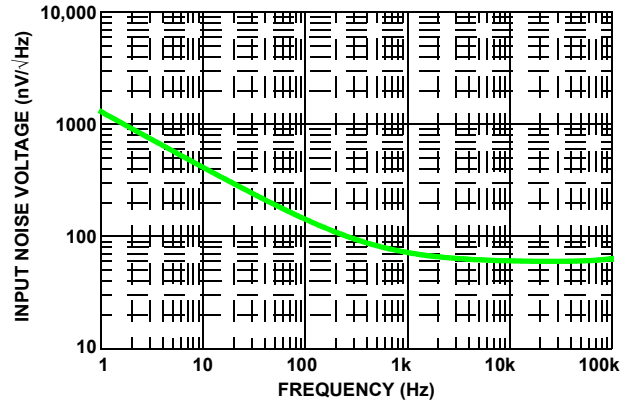

FIGURE 24. SIMULATED INPUT NOISE VOLTAGE
| 3/23/10 | FN6728.4 | <p>Page 1, 2nd paragraph - Added "...SOT23-8 packages..." and changed "S08" to "SOIC8". Also global, changed S08 to SOIC8</p> <p>Pg 2, Ordering Information table: Part # ISL28213FEZ changed to ISL28213FHZ and Part Marking changed to "TBD"</p> <p>-Added Related Literature on page 1, updated ordering information by adding Eval boards. -Added to ordering information part number ISL28213FHZ 8 Ld SOT-23 Package as coming soon. -Replaced Figure 24 Simulated Input Noise Voltage with following changes: Y-axis from "10 to 100" to "10,000 to 10" Removed (A) AC sims.dat (active) from top of graph Curve changed to improve noise performance Made changes to Spice Net List as follows: -Changed Revision from "C" to "D" and added improved noise performance to Revision line. -Changed in Voltage Noise "V_V9 29 0 .00035" to "V_V9 29 0 0.45" "R_R21 28 0 800E3 TC=0,0" to "R_R21 28 0 30" -Removed TC=0 in Input Stage from R_R1 through C_Cin2 -Removed TC=0 in 1st Gain Stage from R_R9 through R_R12 -Removed TC=0 in 2nd Gain Stage from R_R13 through C_C3 -Changed in Common Mode Gain Stage with Zero "G_G5 V++ VC VCM VMID 2.5118E-10" to "G_G5 V++ VC VCM VMID 0.25118" "G_G6 V- VC VCM VMID 2.5118E-10" to "G_G6 V- VC VCM VMID 0.25118" Removed TC=0 from R_R16 through R_R23 -Changed in Pole Stage "G_G7 V++ 23 VG VMID 188.49e-6" to "G_G7 V++ 23 VG VMID 0.18849" "G_G8 V- 23 VG VMID 188.49e-6" to "G_G8 V- 23 VG VMID 0.18849" Removed TC=0 from R_R17 through C_C5 Removed TC=0 in Output Stage with Correction Current Sources from R_R19 and R_R20 Made changes to Spice Schematic Figure 21 as follows: -Input Stage - Modified connection to the EOS (voltage control voltage source) -Added to Thermal Information 8 LD SOT-23 as TBD -Added to pin configuration for the ISL28213 8 Ld SOT-23</p> |